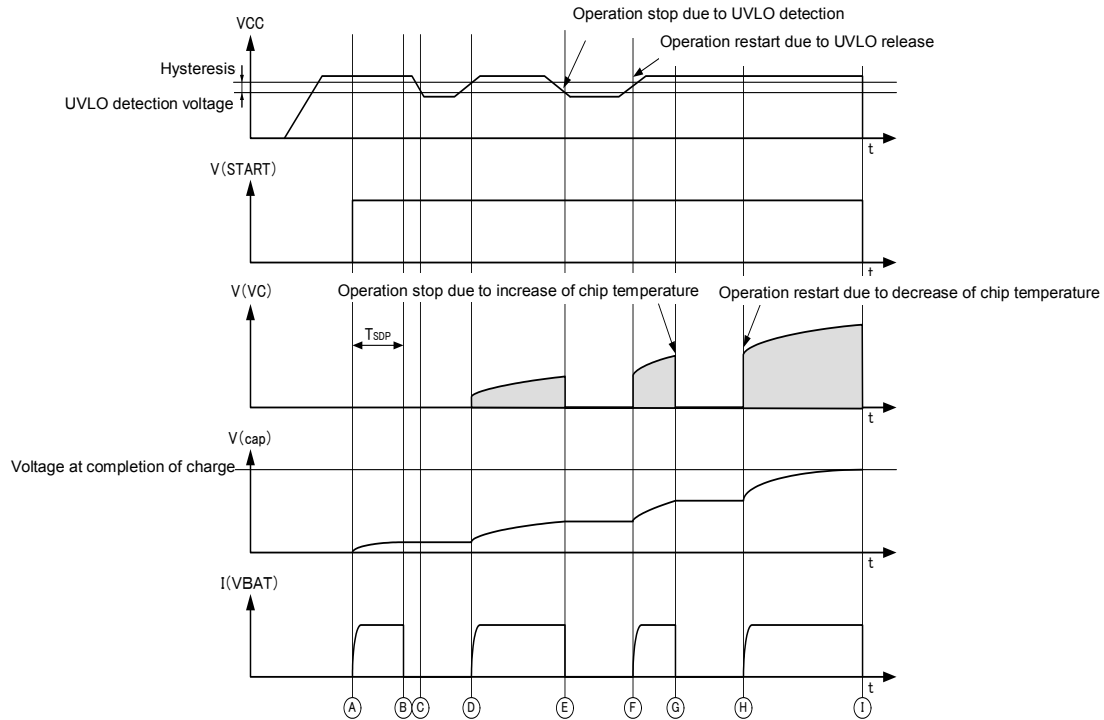

Fig 33. Timing Chart 3: Under Protective Circuit Operation
- ③ The protective circuit is activated (See Fig 33 and the Protective Circuit.).
If the VCC voltage is reduced to the UVLO detection voltage specified in the electrical characteristics or less, the UVLO protective circuit is activated and the charging operation temporarily stops. (See Time ㉞ and ㉟ in Fig 33.) After that, when the VCC voltage becomes the UVLO release voltage or more, the charging operation automatically restarts. (See Time ㊸ and ㊹ in Fig 33.)
It protects the IC against thermal runaway due to excessive temperature rise ($T_j > 175^\circ\text{C}$ [TYP]). After detection, the charging operation temporarily stops (See time ㉟ in Fig 33.), and when the chip temperature decreases, ($T_j < 150^\circ\text{C}$ [TYP]), it automatically restarts. (See Time ㊸ in Fig 33.)
If the VC pin becomes the GND level due to any failure and the PowerTr repeats switching 2^{16} (=65536) times which is the SDP count number (TSDP) at the maximum OFF time, it is judged as an error and the charging operation is forced to be stopped. (See Time ㉟ in Fig 33.) If the START pin is changed from "L" to "H" and the UVLO detection is released, it restarts.